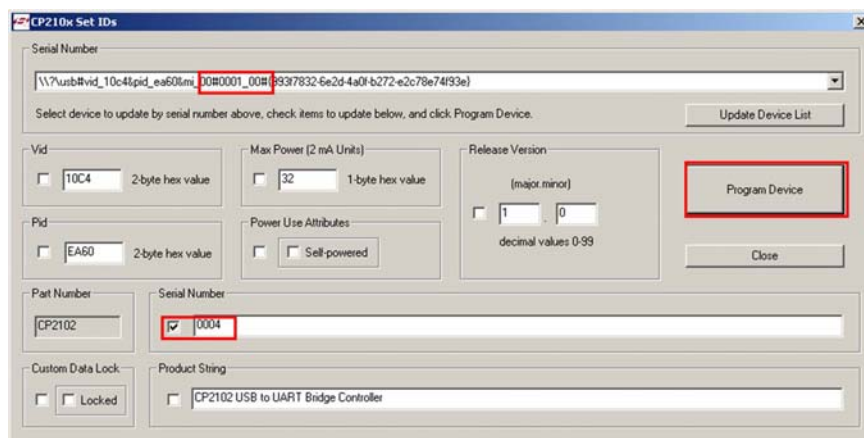

Figure 15 – Screen, CP210x Set IDs (Changing Device ID #'s)
- 2) The serial number box at the top of the screen will have the complete Device ID number, in this example it is the '0001' part of '00#0001_00#' as shown in Figure 15.